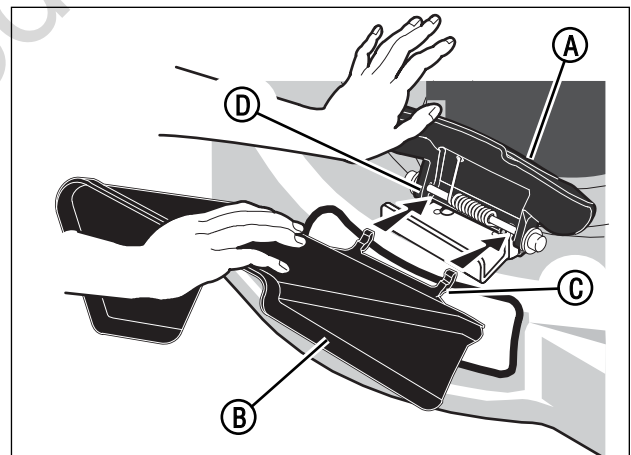

Figure 8: Installing the discharge deflector
1. Raise the recycling cover (**A, Figure 8**).